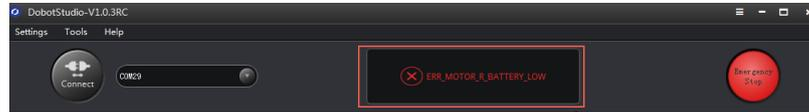

Figure 6.1 Alarm tips
**Step 1** Double-click the alarm tip on the M1Studio page, as shown in Figure 6.1. The **Alarm Log** is displayed.